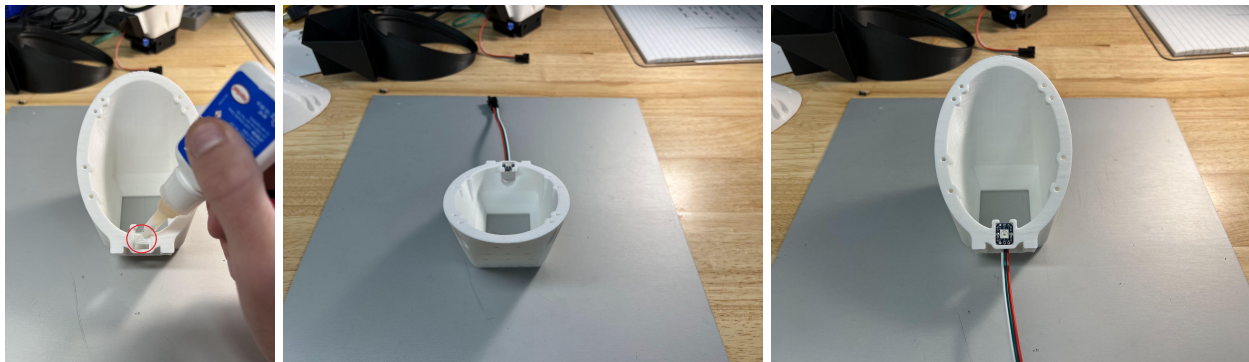

Figure75: Cyanoacrylate (CA) application to the *Bubble Gripper Body*, and the *Bubble Gripper Body* with the NeoPixel Board inserted, front and rear view.
- a. Place a small amount of high-viscosity cyanoacrylate (CA) glue onto the bridge across the rectangular cutout at the bottom of the gripper body, circled in red in Fig. 75.